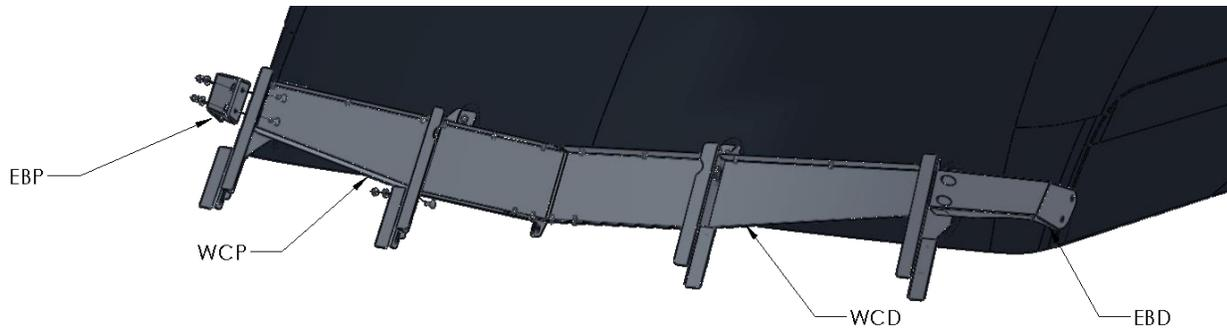

FIGURE 9 – Driver/Passenger Wire Covers and Ear Brackets, shown from front view
4. Place driver/passenger Wire Covers (WCD/WCP) and Ear Brackets (EBD/EBP) in position (See FIGURE 9)
- b. Install (2) 1/4-20 carriage bolts through the outer holes to connect to outer brackets. At this time, the outer Ear Brackets (EBD/EBP) shall be installed in place. Loosely secure this in place with flat washers and locknuts. Make bolts snug but moveable.